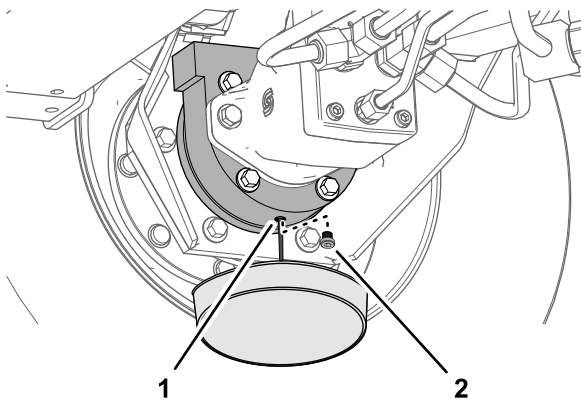

Figure 103
6. Place a drain pan under the brake housing, remove the drain plug, and allow the oil to fully drain (Figure 103).